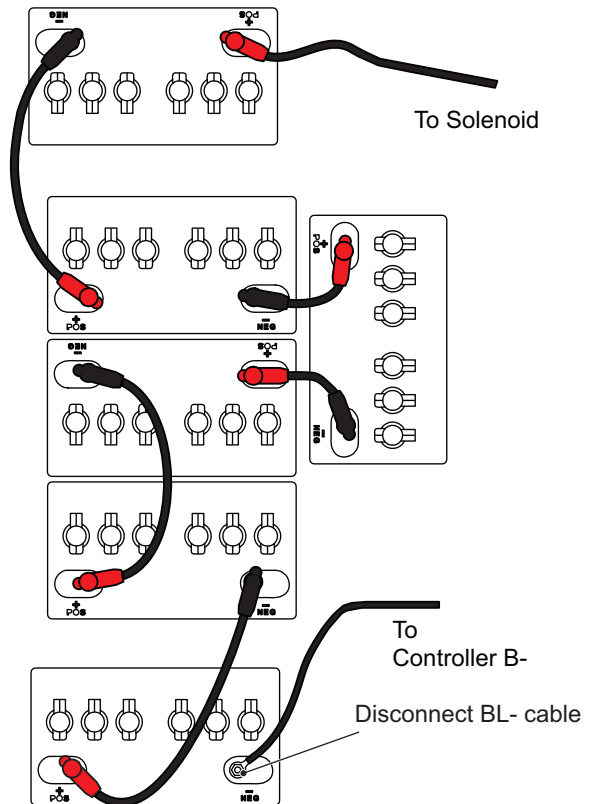

Fig. 1 Disconnect Battery Cable
1. Use an insulated wrench to disconnect the negative (-) battery cable from the battery (Ref Fig. 1).